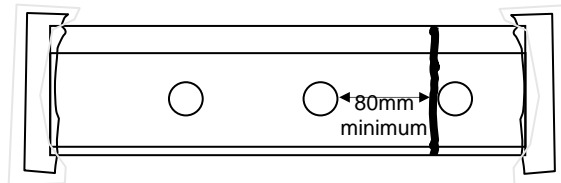

Figure 17 - Minimum distance of bolt hole from weld
- ~ 6 Hole Pattern - Rails which have all 3 holes bored on each rail end must be cut behind the first bolt hole so that a minimum of 80mm is achieved from the weld to the first bolt hole (see Figure 17).